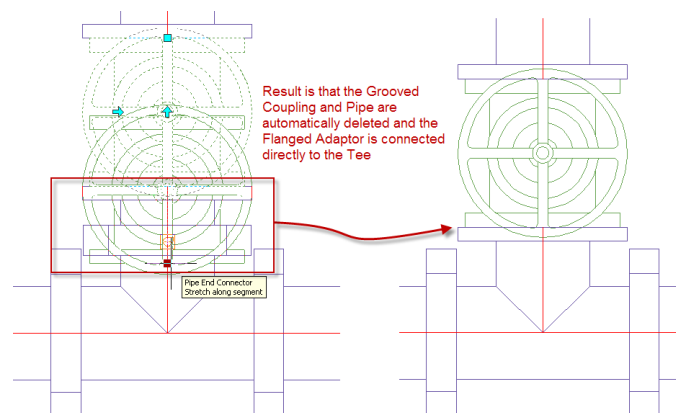

Figure 6.51
3. Drag the rectangular grip to the connector of the tee and snap using the PCON snap (see Figure 6.51).